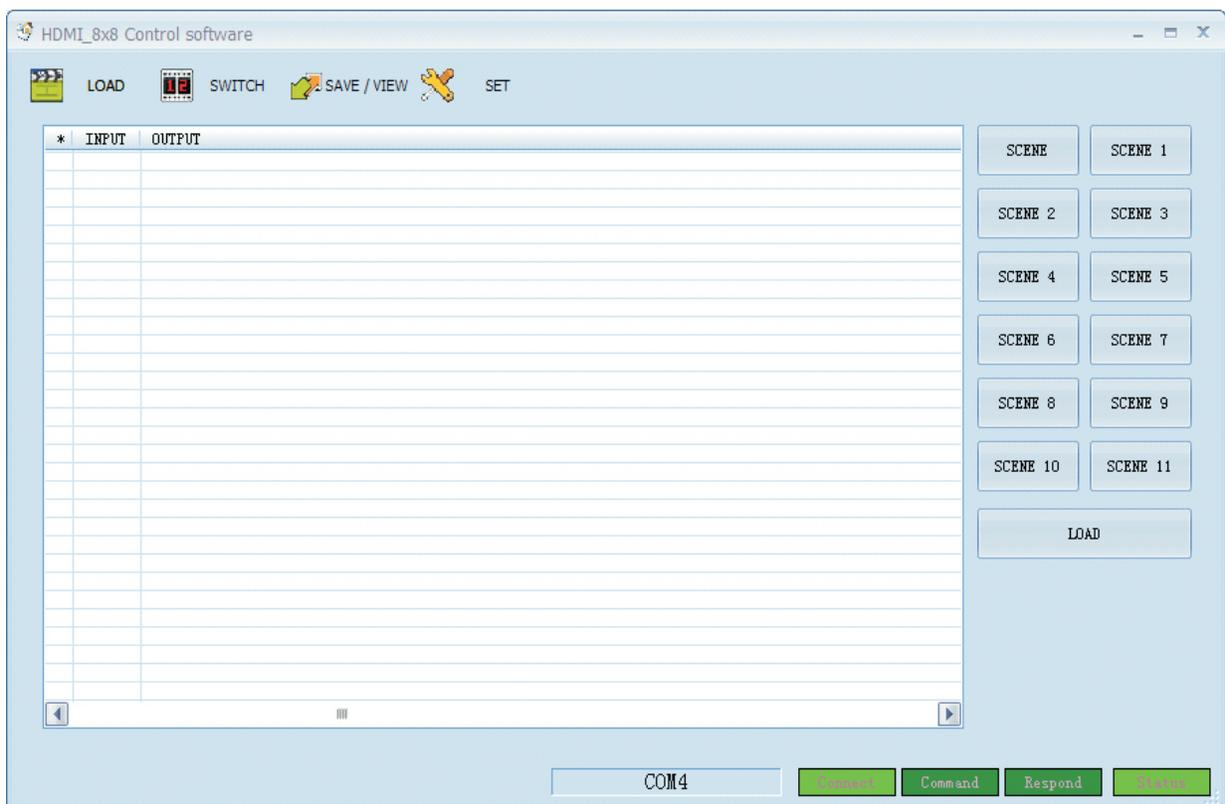

Figure 6 .3 -1
- 3 . Double click Client .exe icon to run it . Figure 6 .3 -1 pops up .